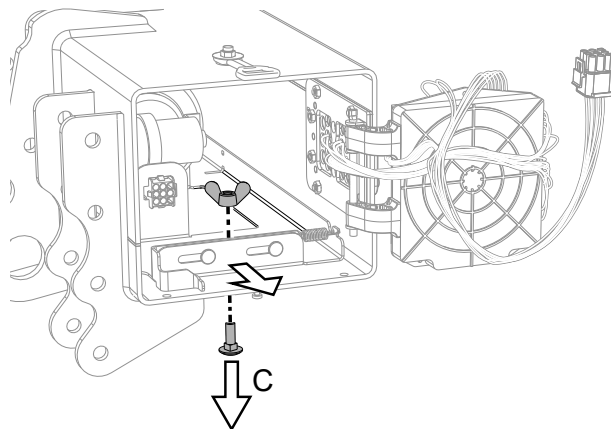
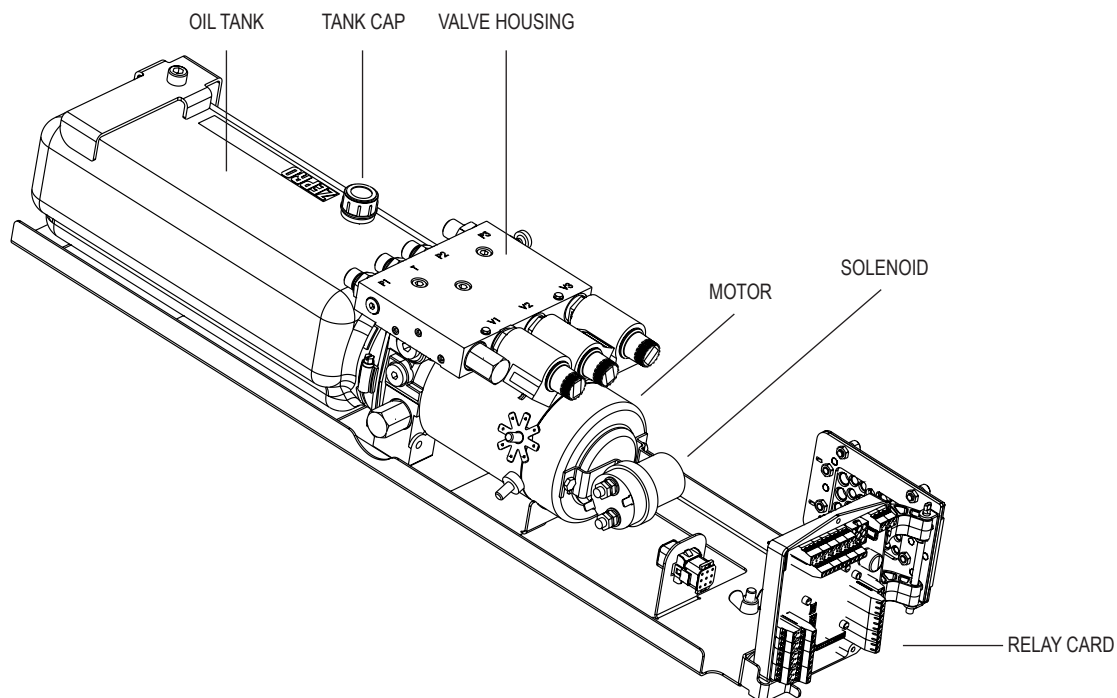

Figure 22. Releasing the hydraulic unit
Figure 24. Hydraulic unit and relay card
4. Release the hydraulic unit by unscrewing the wing nut and corresponding screw (C); see Figure 22 and pull out the hydraulic unit until the tank cap is accessible; see Figure 24.